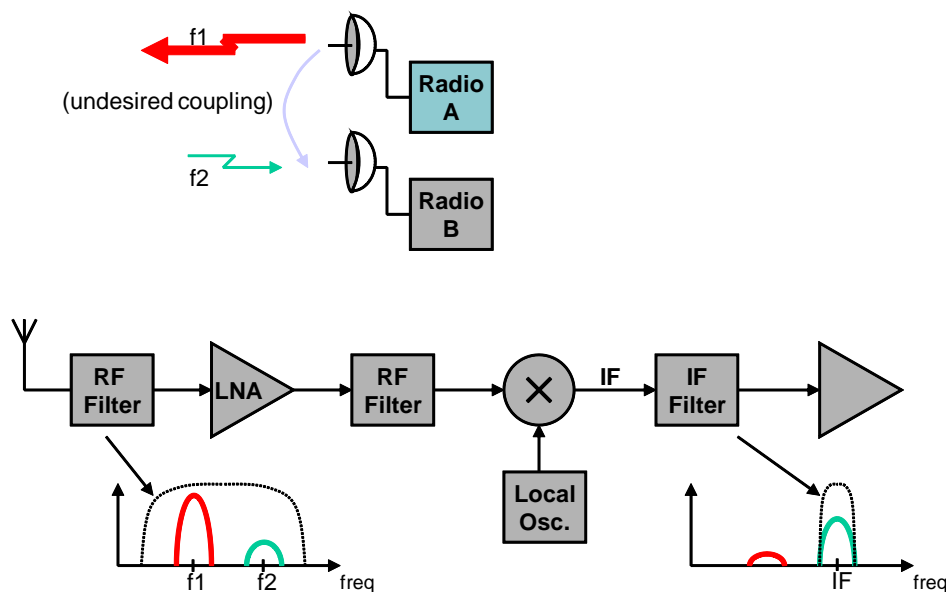

Figure 2-8 Co-located Radio Interference
The self-interference situation is illustrated in Figure 2-8, that shows radio A transmitting on channel f_1 while a co-located radio is trying to receive on channel f_2 . Because the antennas are in close proximity antenna B will pick up a significant portion of the signal transmitted by radio A.
Figure 2-8 also shows a block diagram of the radio front end circuitry. It includes an RF filter to reject out-of-band signals, followed by a Low Noise Amplifier (LNA), a second RF filter, Mixer and finally the Intermediate Frequency (IF) filter. Channel selection occurs at the Intermediate Frequency (IF), where the narrow band IF filter blocks out the other channels. This means that if the interferer (radio A) is in close proximity, and is transmitting while radio B is trying to receive, it may saturate the LNA or the Mixer of radio B. This results in radio B making errors even when it is set to a different channel than radio A.
When you co-locate multiple devices you must choose a fixed split and it must be the same for all the co-located radios. The radios will then synchronize their cycle periods so that all co-located radios transmit at the same time and then receive at the same time. This avoids the situation depicted in Figure 2-8 altogether. With a synchronized site you can then deploy upwards of 24 radios at the same location.